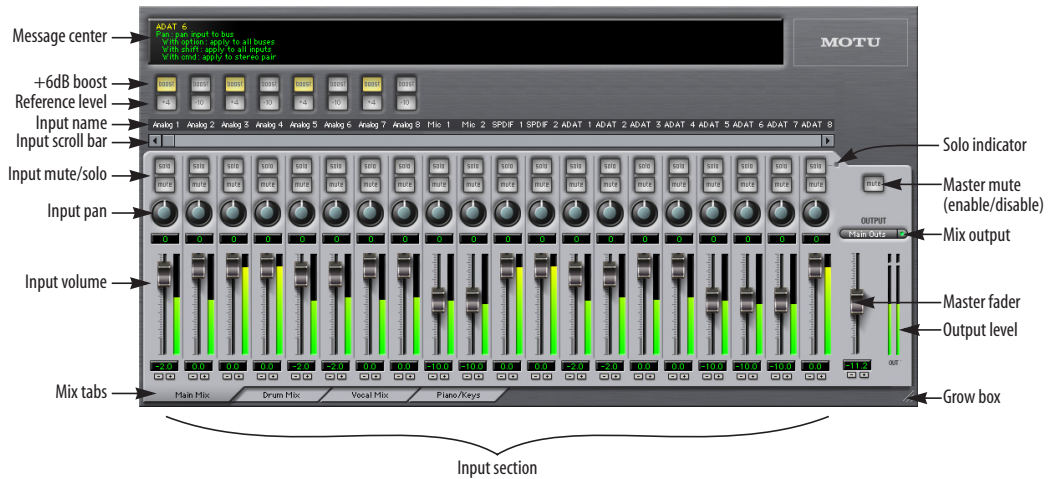

Figure 13-1: CueMix Console is a virtual mixer that gives you control over the 828mkII's on-board mixing features.
CueMix Console displays one mix at a time. To select which mix you are viewing, click its tab at the bottom of the window, as shown in Figure 13-1. The mix name appears in the tab. Double-click the name to change it.
To view more input faders at once, drag the grow box (Figure 13-1) to the right.
To view a mix, click its tab at the bottom of the window, as shown in Figure 13-1. The mix name appears in the tab.
The master mute button (Figure 13-1) temporarily disables (silences) the mix.
The master fader (Figure 13-1) controls the overall level of the mix (its volume on its stereo output). Use the individual input faders to the left to control individual input levels.
To add an input to a mix, or remove it, click its MUTE button. To solo it, use its SOLO button. To toggle these buttons for a stereo pair, hold down the command key while clicking either channel. The Solo indicator LED (Figure 13-1) lights up when any input is soloed (including inputs that may currently be scrolled off-screen).
Use the input fader and pan knob (Figure 13-1) to adjust these settings for the input in the mix. Again, all settings within the gray-shaded channel strip area belong to the mix currently being viewed. Note that an input can have different settings in different mixes.
- 1 Select the source mix (Figure 13-1) and choose Copy from the file menu (or press command-C).
The reference level and +6dB boost settings at the very top of the CueMix Console window (Figure 13-1) affect each input globally, across all mixes and for audio being routed to the computer. For example, if you add 6dB of boost, your host software will receive the boost for that input as well.
This setting (Figure 13-1) adds 6 dB of gain to the input signal. This setting is applied globally for the input.